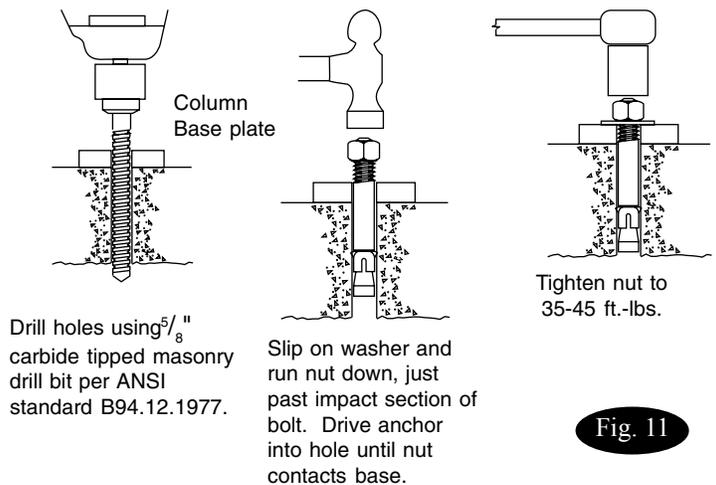
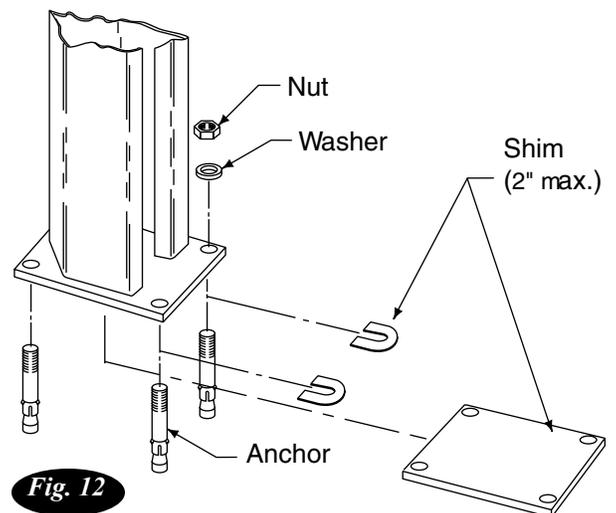

Fig. 11
Fig. 12
- Use shims provided to shim column base to plumb columns, first fore and aft then side to side. Use a 4' level to check plumb of columns. Recheck $\frac{5}{16}$ " gap between column and yoke with yoke spacer tool. Maximum shim thickness is 2", Fig. 12. If more shimming is required, consult factory for different shim package including longer anchor bolts. Drill four $\frac{5}{8}$ " diameter holes through concrete floor using base holes as guide, Fig. 11. Repeat for other columns.
- Insert base anchors, Fig. 11. Repeat for other columns. Tighten nuts. Recheck columns for plumb. Re-shim if necessary. Torque anchor bolts to 35-45 ft. lbs., Fig. 11. If anchor bolts do not hold when torqued to required amount, concrete must be replaced. Saw cut and remove 24" x 24" square area under each column base.